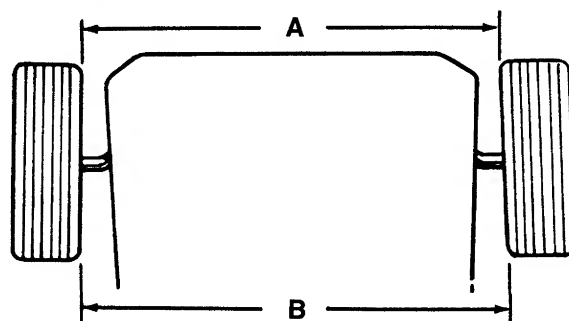

FIGURE 23.
2. Adjust the tie rod in or out until the wheels toe-in approximately 1/8" (Dimension "A" should be approximately 1/8" less than dimension "B"). See figure 23.